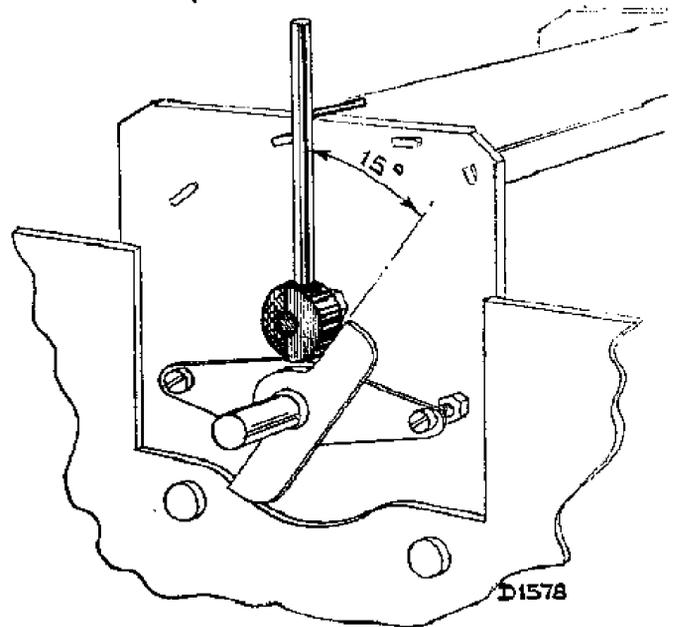

Fig. 2.
It is essential that the condenser is, to begin with, in a predetermined fixed position, namely  $15^\circ$  from the minimum. It can be adjusted by the aid of the template, Fig. 2.
3. A 15° template (Code No. 09.991.470). Fig. 2.
2. Fit a 15° template, Fig. 2.